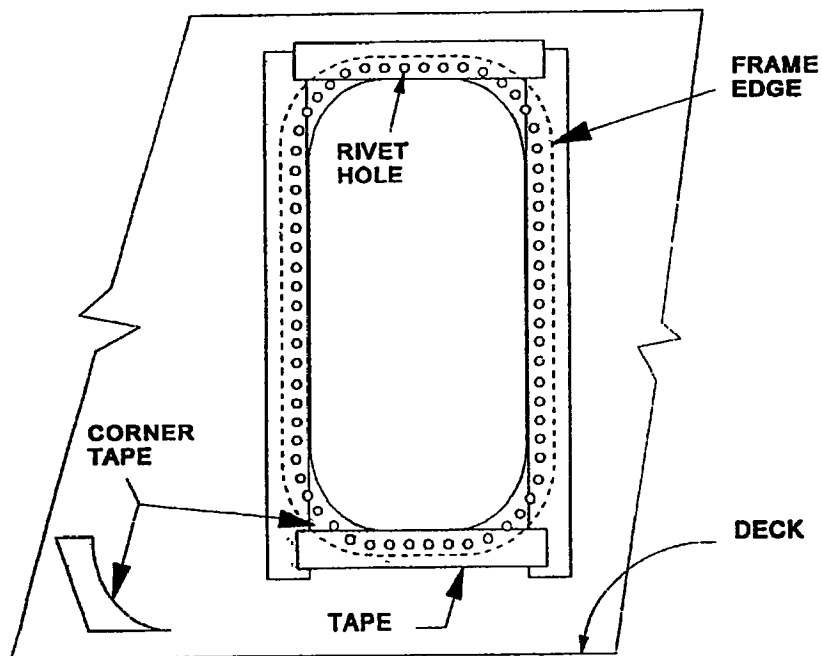

Figure 600-2.75. Dielectric Tape Installation
- b. Drill holes for huck rivets through the frame and bulkhead. For a standard 8- or 10-dog door, drill approximately 60 holes. Drill the holes close enough to the outer edge of the door frame to avoid having huck rivets interfere with the operation of the quick-acting linkage assembly. See figure 600-2.75.
- c. Before installing the door frame, apply two layers (8-1/2 millimeters each, 17 millimeters total) of dielectric barrier tape to the area of the bulkhead that will be in contact with the door frame. The bulkhead must be smooth. (Refer to paragraph 600-2.5.1.1) Install strips of dielectric tape along the entire edge of the clear opening. Cut curved pieces for the corners. See figure 600-2.75.